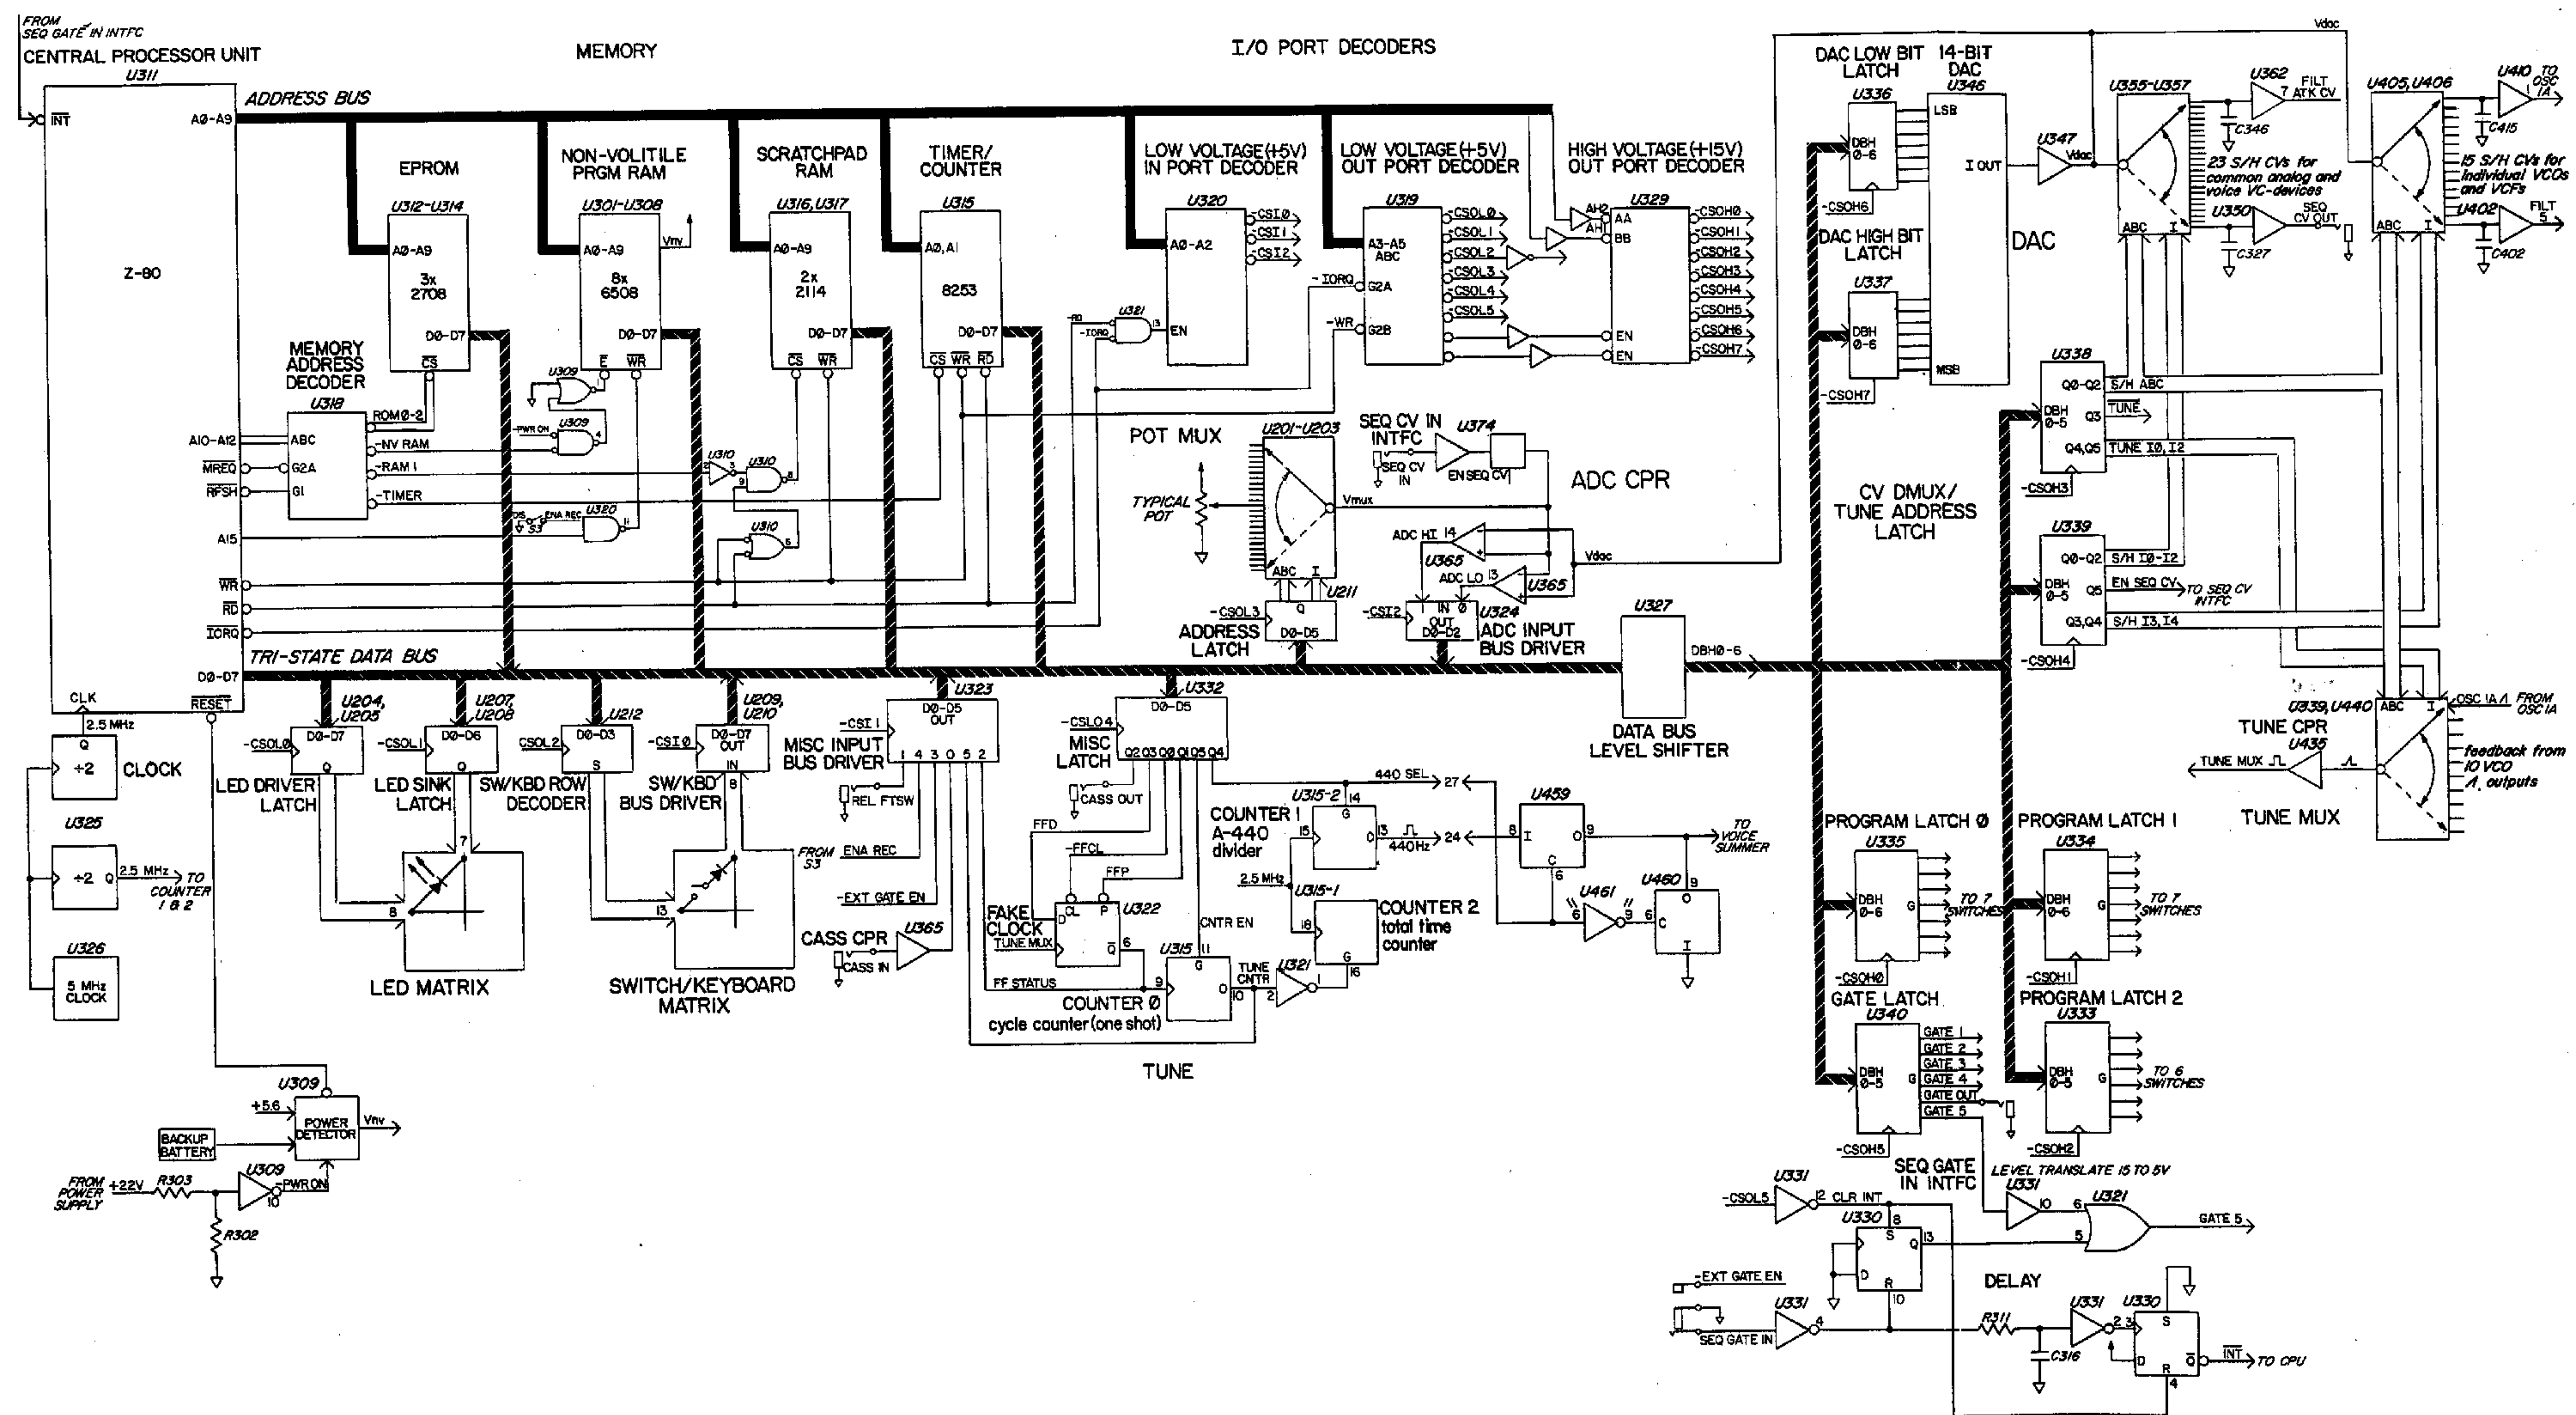

Figure 2-5 MICROCOMPUTER ABSTRACT SCHEMATIC
See Figure 2-5. If you are unfamiliar with microcomputers you might find it helpful to focus on the Data Bus, to which the CPU, Memory, and all input/output (I/O) devices connect. All processing is communicated over this bus. But since the bus can signify only a byte (comprised of eight bits) at a time, data must be transferred sequentially, a byte at a time. Conflicts between data senders and receivers—actually, bus drivers and latches—are prevented by Chip Selects (CS) generated by the Memory Address, Input Port, and Output Port Decoders. Each memory device, bus driver or latch can only send or receive data when its CS is active, and no two CSs can occur at once. Each CS is decoded from a unique combination of Address and Control Bus signals. All memory devices have A0-A9 in common. These lines signify up to 1024 (1k) addresses. Individual memory devices are differentiated by decoding A10-A12 and -MREQ into CSs which select the appropriate 1-K block. The I/O Port Decoders share A0-A5 with Memory, but only issue CSs or CSOs when -IORQ goes low. While -MREQ and -IORQ indicate Memory or I/O can "converse" with the CPU, -WR and -RD indicate the direction of the transfer is from or to the CPU.
Please see Figure 2-5 and schematic SD331. The Power Detector (PWR DET) circuit controls CPU start-up and shut-off through the Clock and -RESET signals. PWR DET also contains battery BT301 which provides back-up power, Vnv, for Non-Volatile (NV) RAM. The NV RAM's low current requirement allows the battery a ten-year life expectancy.
The first stage functions as follows. First the CPU disables the PITCH wheel, MTUN, and UNI CV, by opening switches in their signal paths. The TUNE circuit consists of ~~U339/40~~ U435 TUNE MUX (see Figure 2-5 or schematic SD430), U435 TUNE CPR, and Counter (CNTR) 0 and 2 of U315, a three-section 8253 Programmable Interval Timer. (CNTR 1 is used for A-440, discussed below). When activated, the TUNE MUX sequentially connects each oscillator output to the TUNE CPR in the same way the POT MUX samples pots for the ADC CPR. The TUNE CPR converts the sawtooth to pulses. With no input at U435-3, R4158/R4159 hold U435-2 at 1.36V, so U435-7 is high. U435-3 increases with the positive-going sawtooth, so that when it crosses 1.36V, U435-7 goes low. R4170 feeds-back the transition to prevent oscillation (hysteresis).